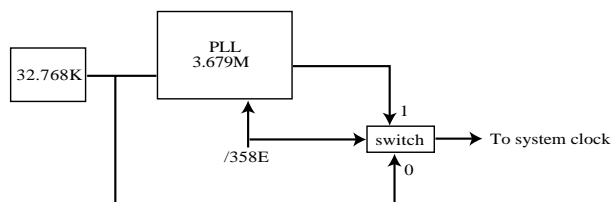

Fig. 7 The relation between 32.768K and 3.679K .
- The relation between 32.768K and 3.679M can see Fig. 7.